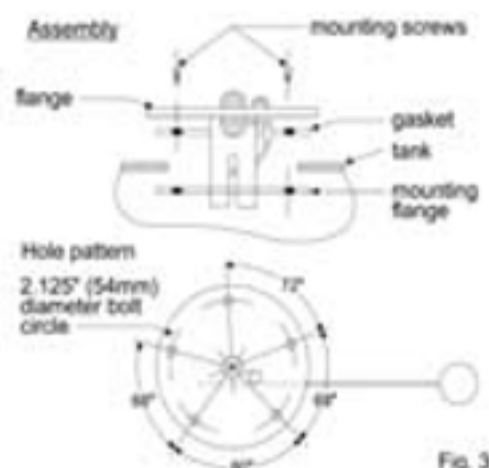

Fig. 3
1. Refer to Fig. 3 and slide the rubber gasket up to the bottom of the fuel sender flange.